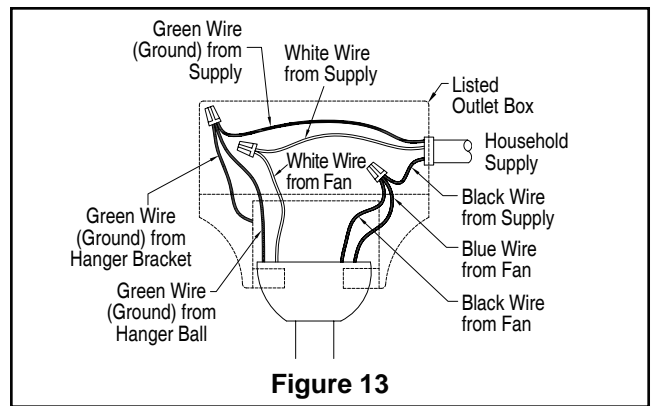

Figure 13
- 3. After splicing and making the wire connections, the wires should be spread apart and turned upward with the grounded conductor and the equipment-grounding conductor on one side of the outlet box and the ungrounded conductor on the other side of the outlet box. (Figure 13)